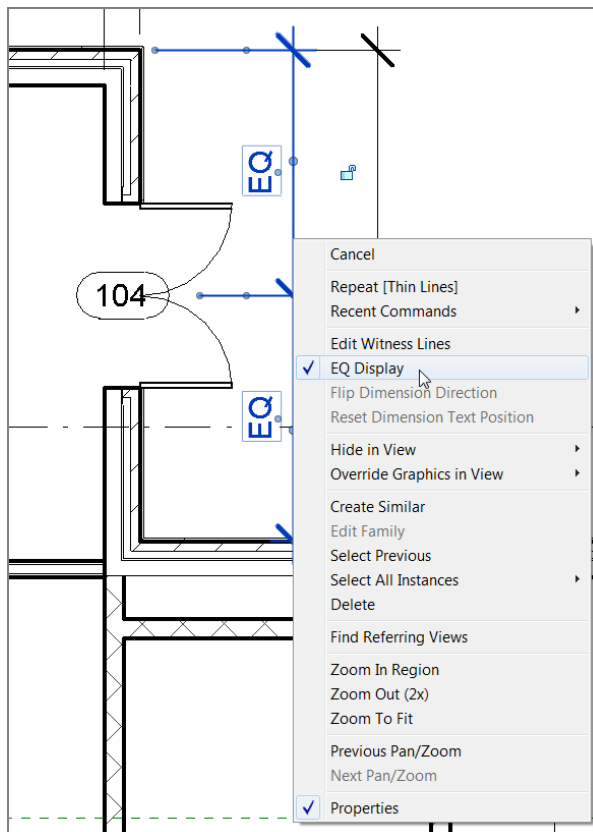

FIGURE 5.9: Toggle off the EQ Display option.
3. Choose EQ Display (this deselects the option), as shown in Figure 5.9.